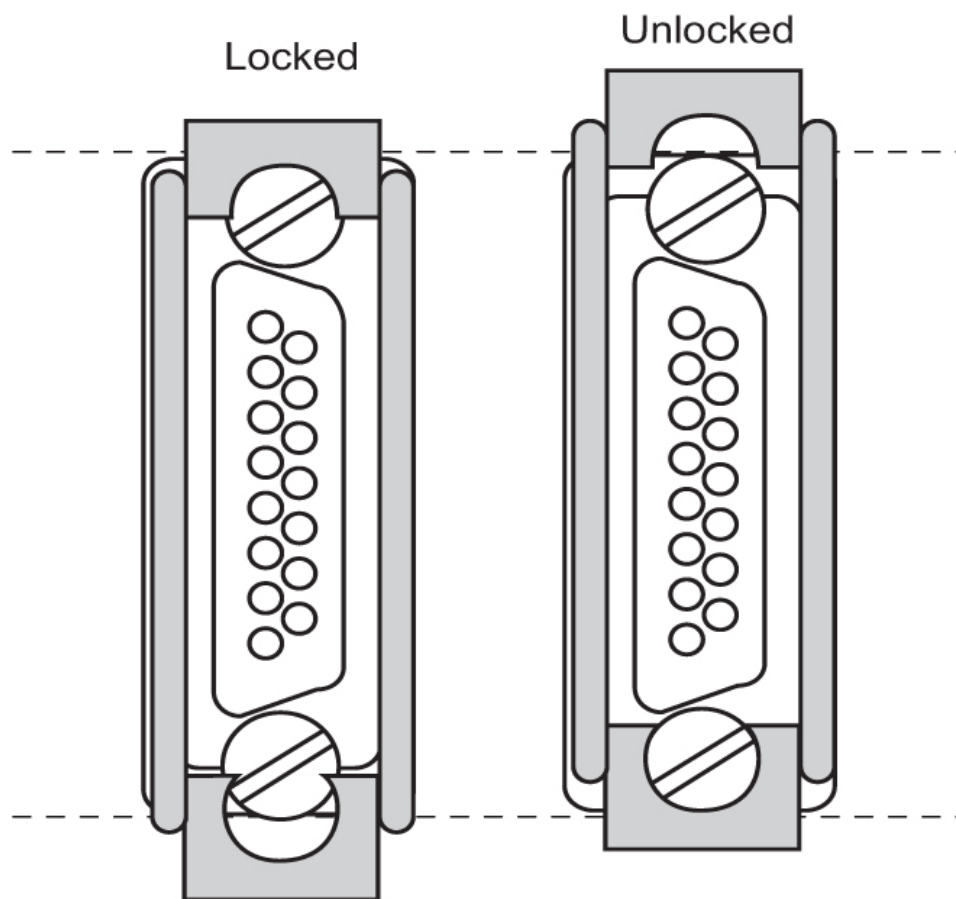

Figure 74: Adapter Slide Latch
- c) Ensure the adapter slide latch is in the unlocked (up) position see to Figure 74: Adapter Slide Latch.